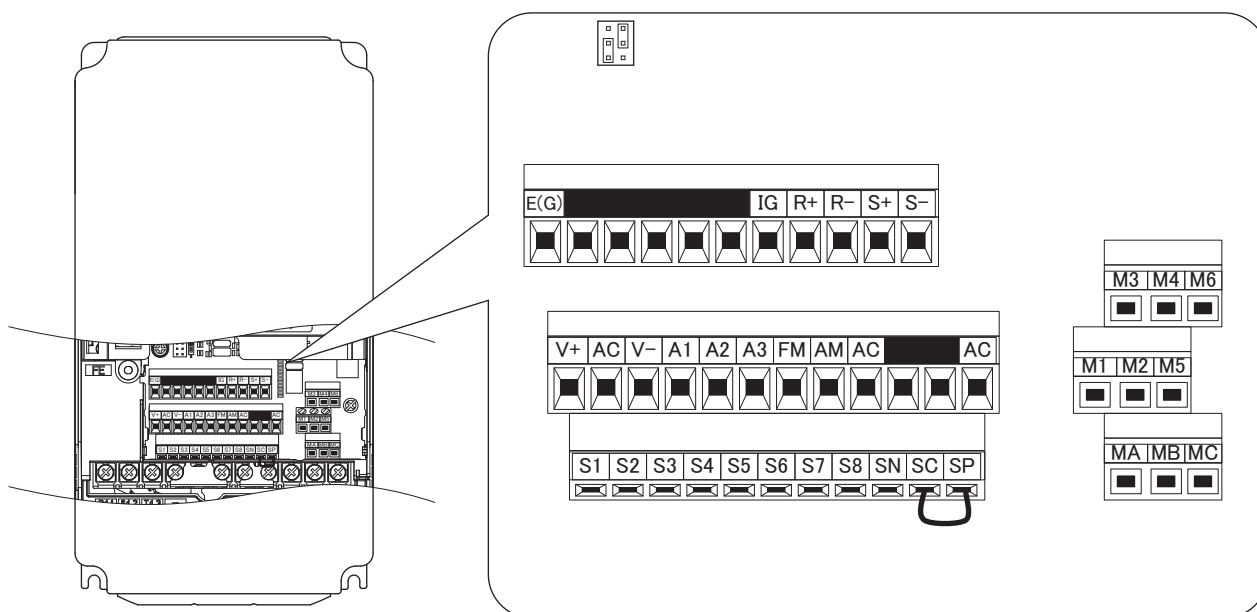

Figure C.7 Terminal Connections for Communication Self-Diagnostics
4. With the power off, wire the regenerative unit as shown in **Figure C.7**, connecting terminals R+ and S+, R- and S-, and S6 and SC.